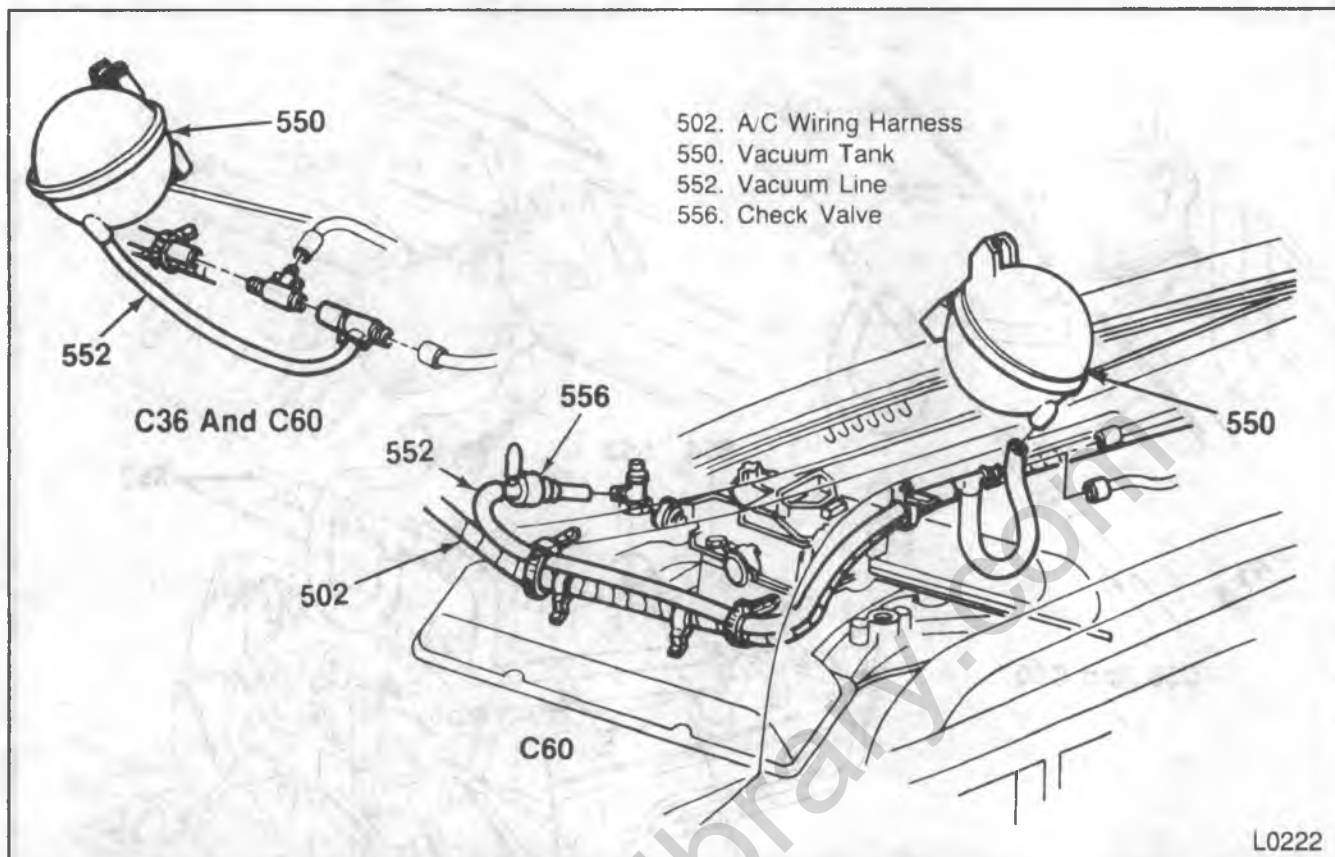

Figure 67—Vacuum Tank Assembly—5.0 and 5.7L Engine
2. 5.0L and 5.7L Engine (figure 67).